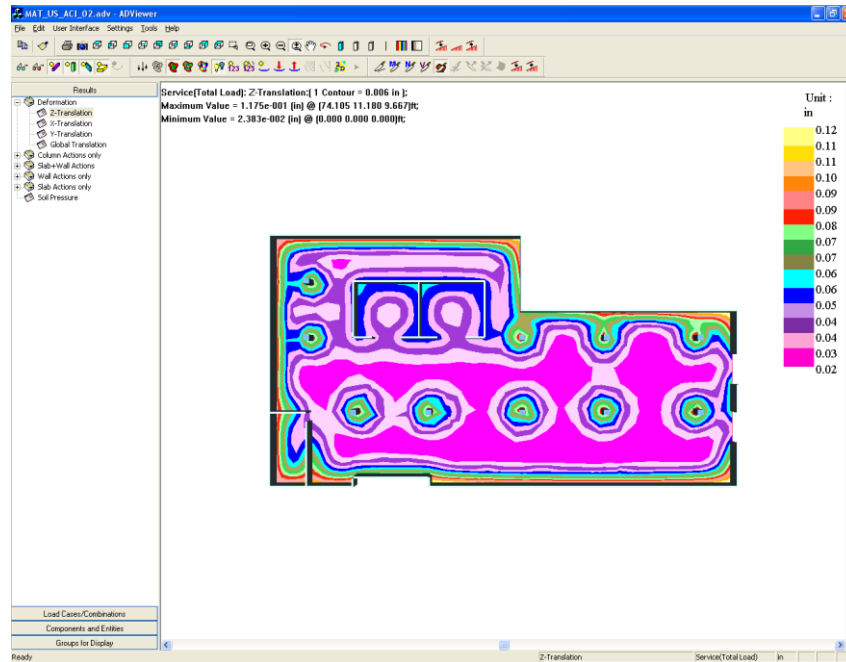

Figure 6.6-5 - Display Screen of FEM Solutions
- Click on the button **Display Results**  icon. This will display the color contour for displacement as shown in **Figure 6.6-5**.